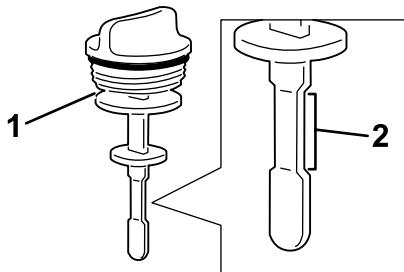

Figure 142
4. Remove the dipstick from the filler neck and check the fluid level (Figure 142).